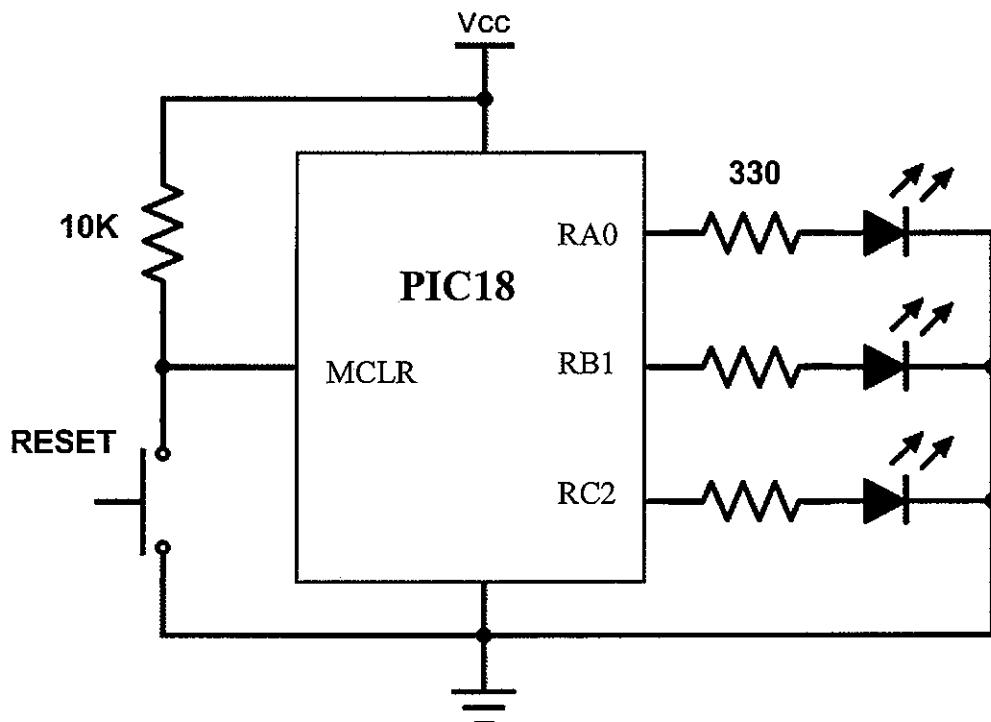

Figure A1 (b) / Rajah A1 (b)
- CLO1 (b) In Figure A1 (b), three (3) pins at PIC18 are connected to a pair of $330\ \Omega$ resistor and LED respectively. Using bit addressable instruction, write a C program for PIC18 to switch on all LEDs.